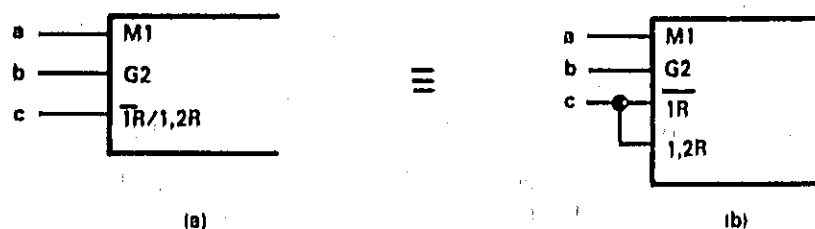

Figure 2. Dependency Notation Layout
3. If an input performs several different functions, each may be described on separate input lines or on the same line with each effect separated by a slanted line (/). Figure 2 illustrates these two formats. In Figure 2(a) input c,
a reset line is active when input a is high or (/) when inputs a and b are high. Figure 2(b) illustrates the same idea, but separates the two conditions showing them as separate inputs rather than combining them.